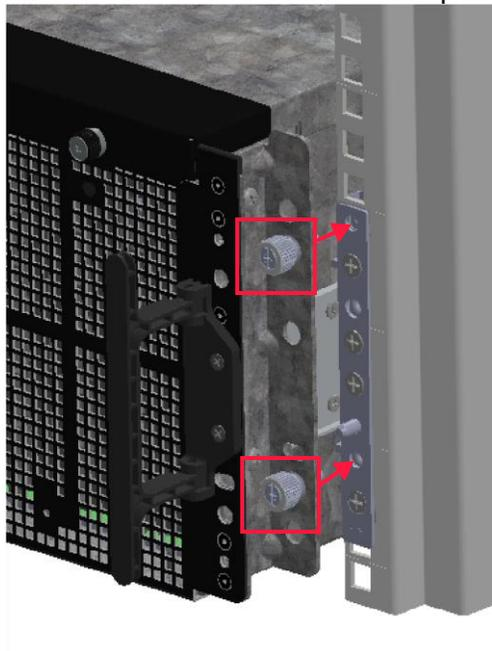

Figure 3.21 Rack thumbscrews
2. The two left and two right thumbscrews on each side of the enclosure must align with the two screw holes on each rack post as shown in Figure 3.21.